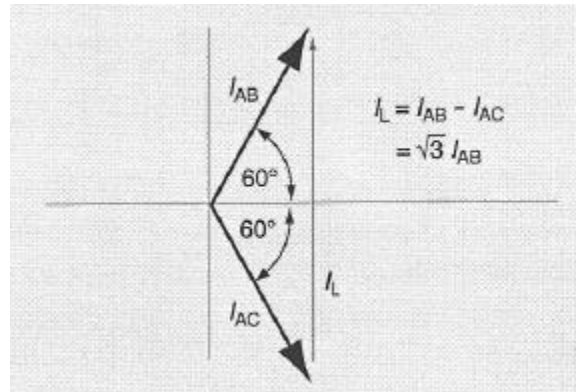

Figure 7.9: Vector Diagram for Calculating  $I_L$
- 7-26 The peak current occurs at the instant when one of the two rotating current vectors is  $60^\circ$  above the horizontal axis, and the other is  $60^\circ$  below the horizontal axis. The vectors are shown in these positions in Figure 7.9.